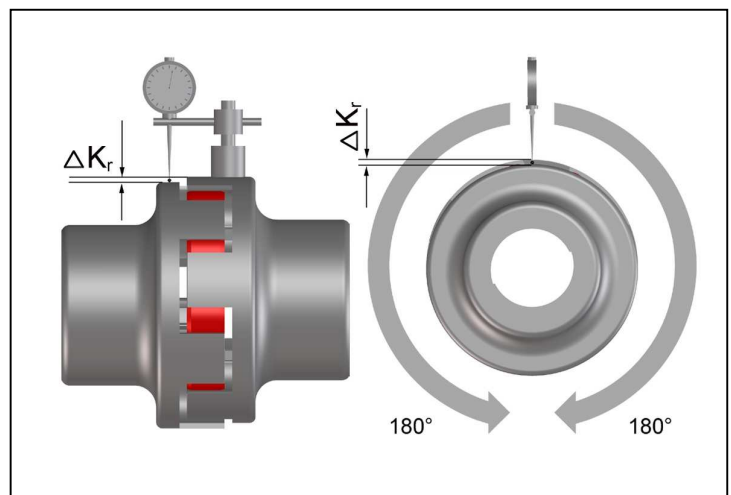

Fig. 7
- Measure one complete revolution (360°). Determine the largest deviation K_{r1} and the smallest deviation K_{r2} (Fig. 7). Calculate the radial misalignment: